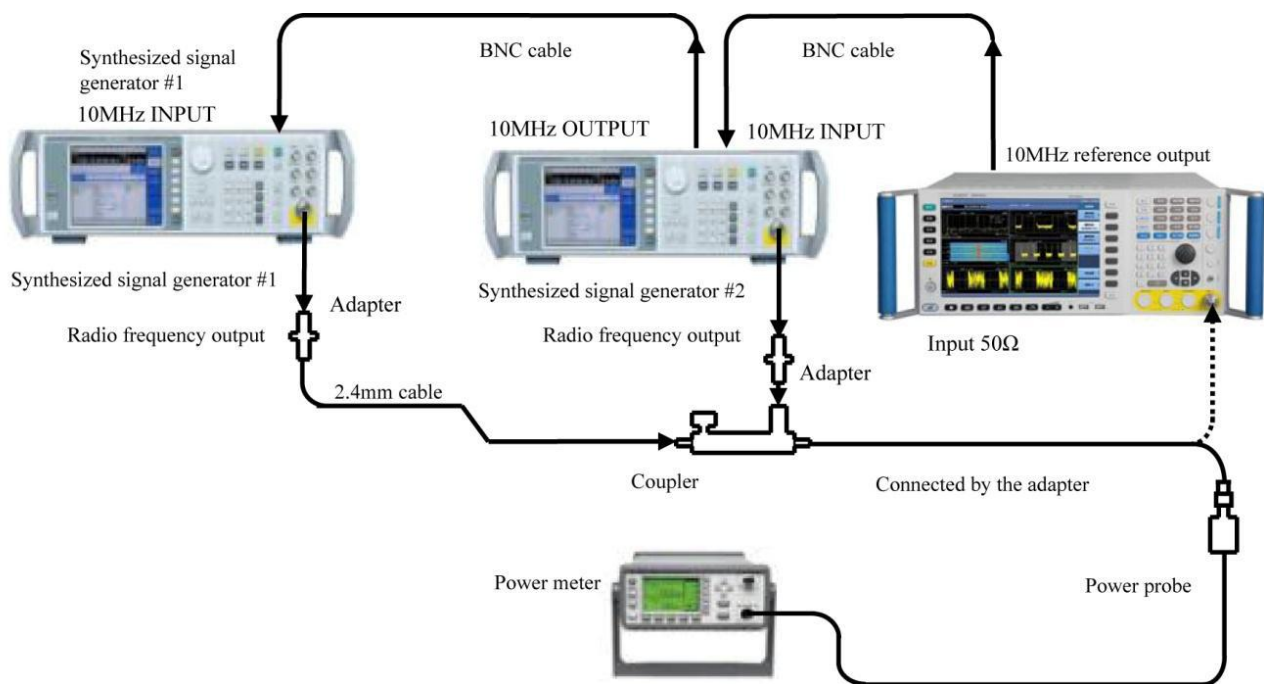

Fig. 8.13 Schematic diagram of 1 dB gain compression test
- 4) Connect the instrument according to solid lines in Fig. 8.13 with the output of the RF direction couple connected via the adapter to the power sensor.
- 6) Change the connections in the test according to dotted lines in Fig. 8.13, turn on the output of synthesized signal generator #2 and adjust the power level of synthesized signal generator #2 to display the signal peak 2 ~3 divisions under the 4051 reference level.
- 10) Connect the instrument according to solid lines in Fig. 8.13. Set the center frequency of the 4051 analyzer as 100 MHz, the frequency of synthesized signal generator#1 as 103 MHz and the frequency of synthesized signal generator#2 as 100 MHz.
- 13) Connect the instrument according to solid lines in Fig. 8.13. Set the center frequency of the 4051 analyzer as 200 MHz, the frequency of synthesized signal generator#1 as 2.003 GHz and the frequency of synthesized signal generator#2 as 2 GHz.
- 17) Connect the instrument according to solid lines in Fig. 8.13. Set the center frequency of the 4051 analyzer as 5 GHz, the frequency of synthesized signal generator#1 as 5.003 GHz and the frequency of synthesized signal generator#2 as 5 GHz.
- 21) Connect the instrument according to solid lines in Fig. 8.13. Set the center frequency of the 4051 analyzer as 15 GHz, the frequency of synthesized signal generator#1 as 15.003 GHz and the frequency of synthesized signal generator#2 as 15 GHz.